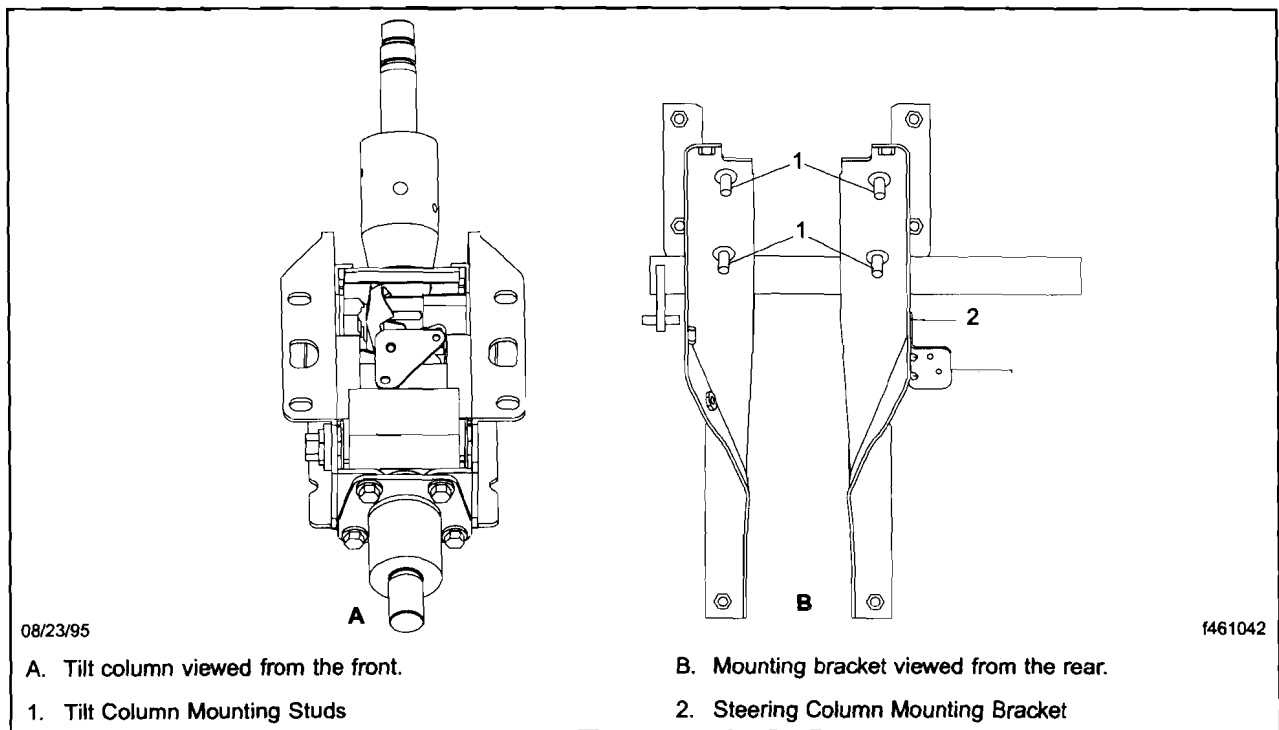

Fig. 3, Tilt Steering Column and Mounting Bracket
13. Remove the nuts and washers that attach the steering column to the mounting bracket and remove the steering column assembly from the vehicle. See **Fig. 3**.
14. Position the new steering column on the steering column mounting bracket. See **Fig. 3**. Install the nuts and washers, and tighten the nuts 26 lbf-ft (35 N·m).